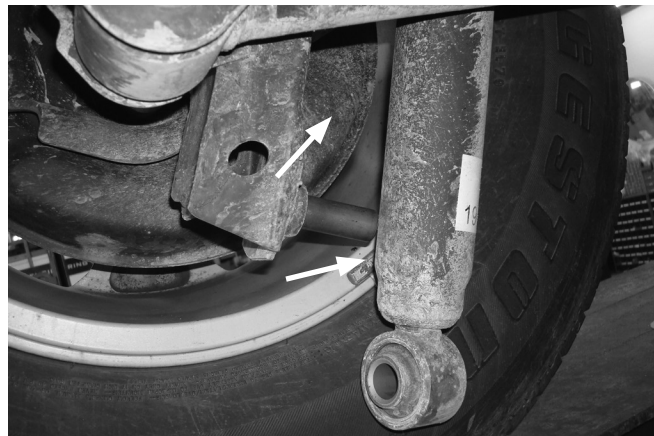
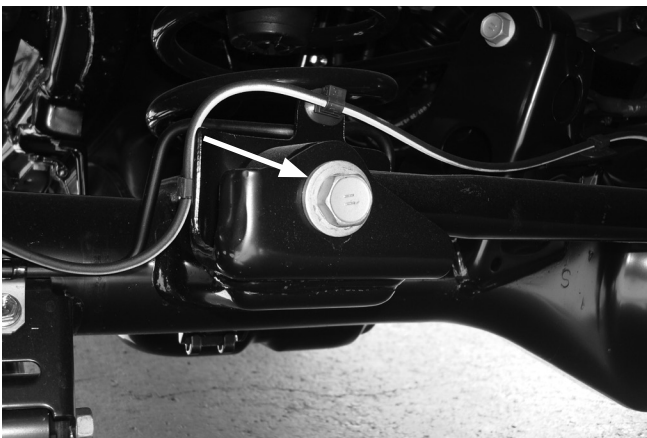

Fig. 2
Fig. 3
3. Support the axle and remove the lower shock bolts on both sides (Fig. 2). Remove the Panhard rod bolt on the driver's (left) side (Fig. 3). Remove the brake line bracket bolt on the rear of the axle, then pull the bracket away from its mounting location on the axle (Fig. 4). Remove the ABS bracket bolt on the rear of the axle, then pull the bracket away from its mounting location on the axle (Fig. 5). Then disconnect one end of the sway bar links that are attached to the frame or the sway bar (Fig. 6). Save all hardware for re-use.